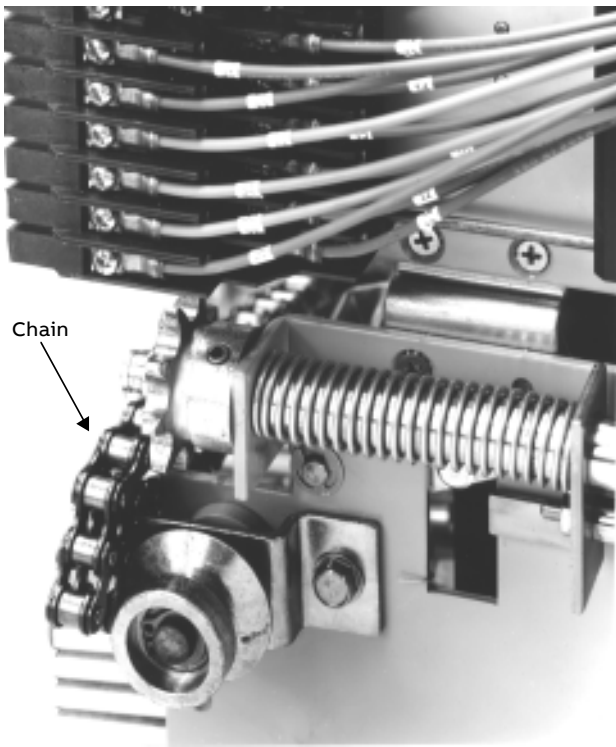

Figure 14. Racking chain removed from the gear.
14. Tilt the side plate away from the breaker, then remove the racking chain from the gear, as shown in Figure 14.